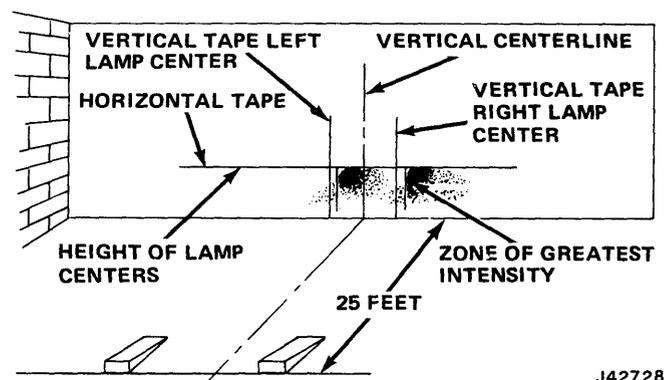

Fig. 3-68 Headlamp Aiming Chart
- (1) Locate vehicle in darkened area with level floor and with screen (wall) having nonreflecting white surface.
- (2) Mark reference line on floor 25 feet away from and parallel to screen (fig. 3-68).
- (3) Position vehicle perpendicular to screen and with headlamps directly over reference line.
- (4) Locate middle tape on screen so it is aligned with centerline of vehicle.
- (5) Equalize all tire pressures.
- (6) Rock vehicle from side to side to equalize springs and shock absorbers.
- (7) Measure distance between vehicle headlamp centers.
- (8) Position marker tapes vertically on screen to right and left of middle tape at half this distance.
(15) Turn screw clockwise until top edge of high intensity area is even with horizontal line.
(16) Turn horizontal aiming screw counterclockwise until beam is off centering tape.
(17) Turn same screw clockwise until left edge of high intensity area is 2 inches to right of lamp centerline (fig. 3-68).